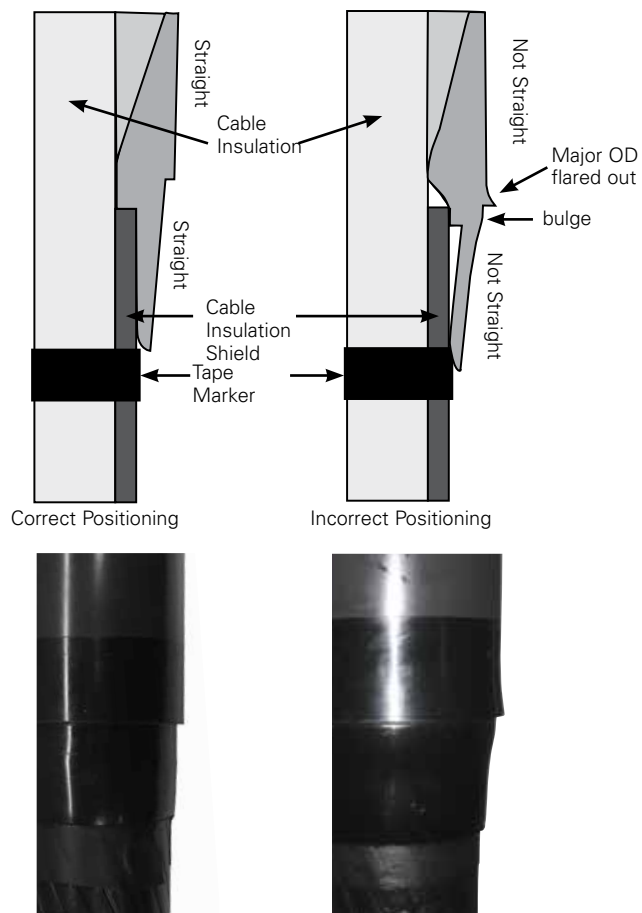

Figure 21. Cross sectional view of cable adapter positioning.
- After sliding the cable adapter into position make sure that no bulge is present (see Figure 21).
Note: The end of the cable adapter must line up with the top edge of the tape marker after T-body assembly. Refer to Figure 21.